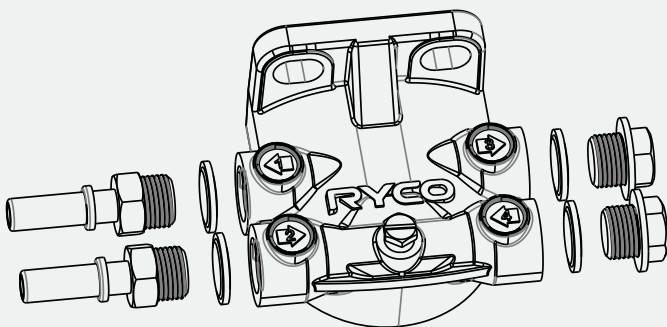

FIGURE 3
- 1 Install the Ryco fuel water separator head with metal quick connectors, blanking plugs and rubber bonded washers, as per Fig 3. Tighten blanking plugs (on Port 1 & 2) and quick connectors (on Port 3 & 4).